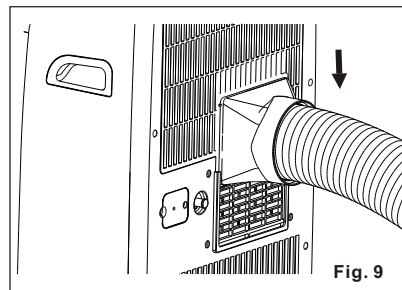

Fig. 9
- 1) Install the **Flexible Exhaust Hose** Fig.9 and the **Adjustable Window / Slider Kit** as depicted in Fig. 2 & 2a on Page 5.